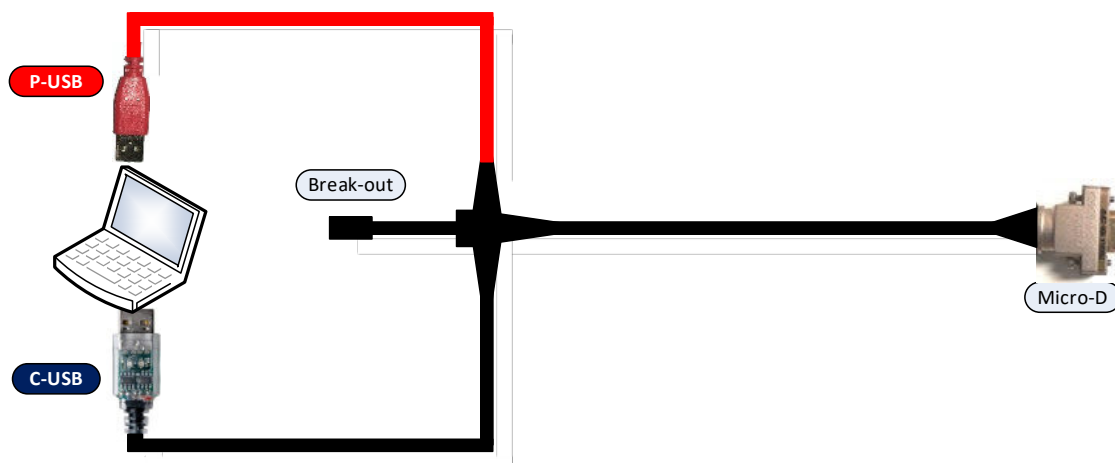

Figure 7: Connecting the EVK to a computer.
- Connect the USB-RS422 plug to a spare USB port on your PC. *Figure 7* shows how to connect the EVK to a PC